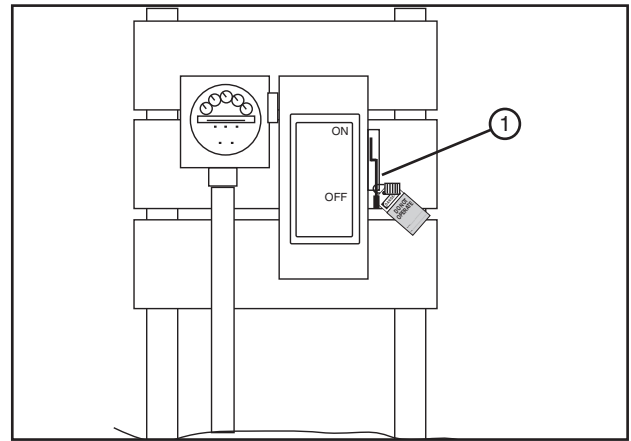

Figure 91-1 1. Public Power Service Disconnect
1. SHUT OFF and LOCK the public power service disconnect to the irrigation machine. See figure 91-1.
FILL OUT the blue (OSHA safety color code) tag and attach to the disconnect after locking. See figure 91-1.